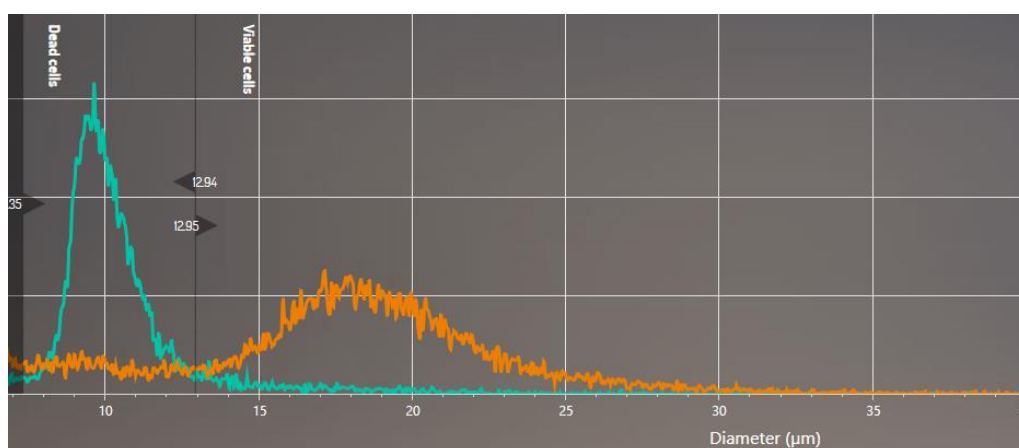

Figure 20: Overlay of pharynx cancer cells. Orange – viable cells; green – viable cells pretreated with CASYblue
- + Using an **Overlay view** of the viable and the CASYblue pretreated cells enable to easily define the cursor for the specific cells type (see figure 20)